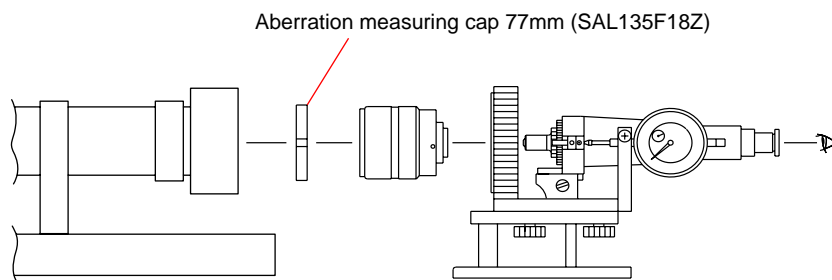

Fig.4-5-1
- 2) Set the aberration measuring cap 77mm on the tip of lens as shown in the Fig.4-5-1, then measure the flange back (f’F).